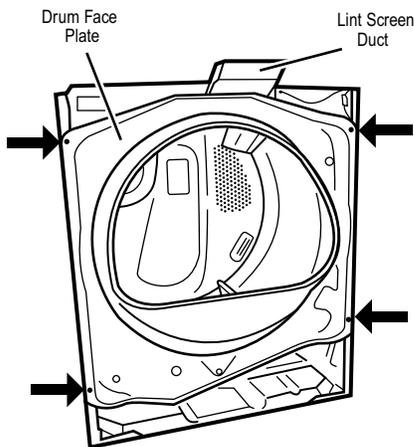

Figure 13. Remove the front bulkhead.
- Remove the front bulkhead by loosening the upper two screws and removing the lower two screws. See Figure 13.